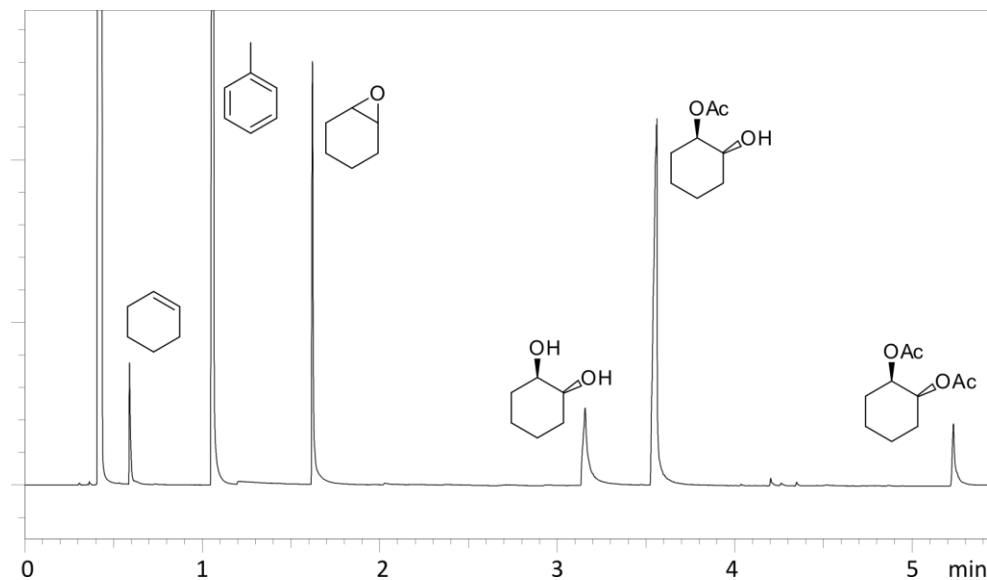

Figure 4: Example GC chromatogram
- With the aforementioned mixture, you should observe peaks in roughly the same order as in Figure 4.